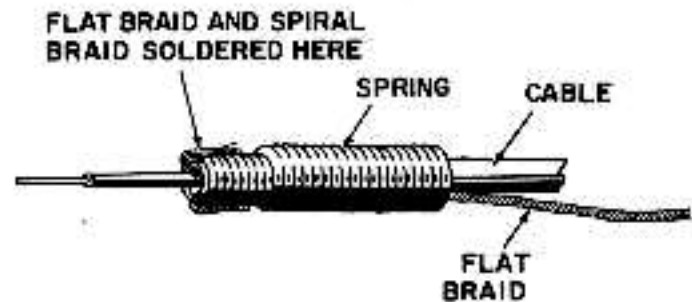

FIGURE 13
- ( ) 139. Insert the flat braided wire into the large diameter end of the probe cable spring, leaving approximately 3/8" of the braid extending beyond the small diameter end of the spring. See Figure 13.
- ( ) 140. Slide the spring and braid together over the prepared cable end with the small diameter end of the spring toward the prepared cable end. Fold the 3/8" length of the spiral cable shield back over the spring; fold the 3/8" length of the flat braid back over the spring, then solder both shield and braid to the spring. See Figure 13.